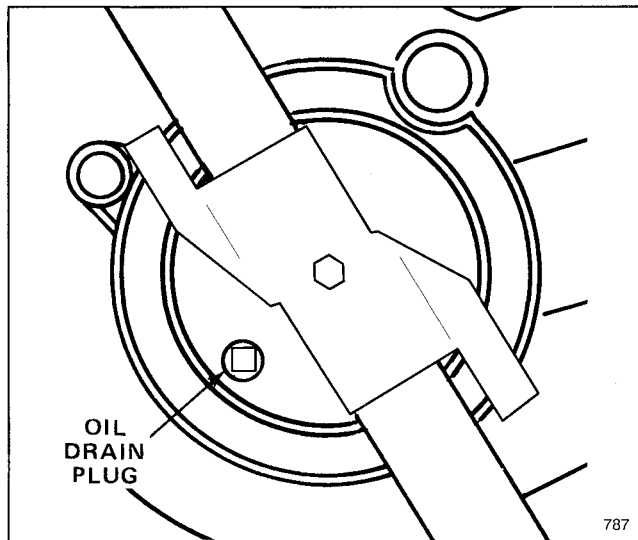

Figure 16
4. Remove drain plug (Fig. 16) from underside of mower using a $\frac{3}{8}$ " square drive.